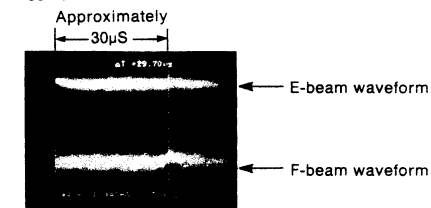

Fig. 6
10. Next, push the PLAY button, and set the oscilloscope in the DUAL MODE so that both E and F outputs can be seen. Set the DISPLAY TIME to $5\mu\text{s}$. Now, adjustment is complete if the waveforms shown below in Fig. 6 (Channel 1 trigger) are obtained.
- b. Next, apply tracking servo, and if the waveforms shown in Fig. 6 are obtained then adjustment is unnecessary.